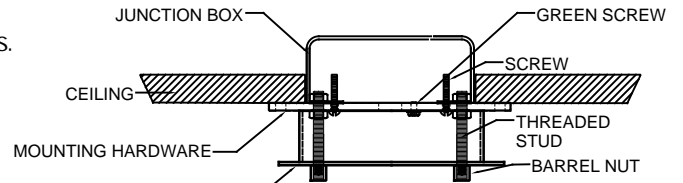

FIGURE-02
5. Attach the fixture to the mounting strap and secure it with barrel nuts. (See Figure-02)